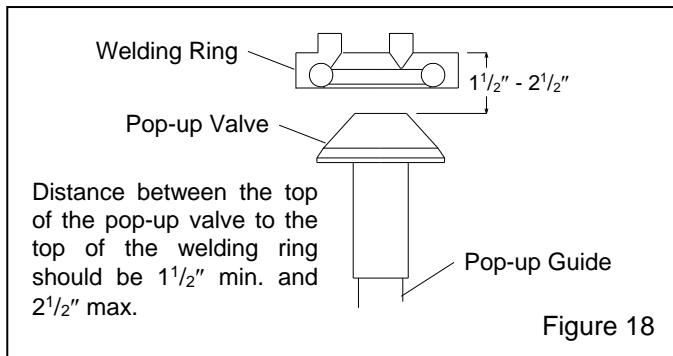

Figure 18
**5.8.6** Refer to Figure 18 to check the pop-up height. If the pop-up sits too low, misalignment could occur when the pop-up comes up against the seal. If the pop-up sits too high, it will take longer for abrasive to flow through the opening when filling. Adjust the height by replacing the guide with one that is longer or shorter.